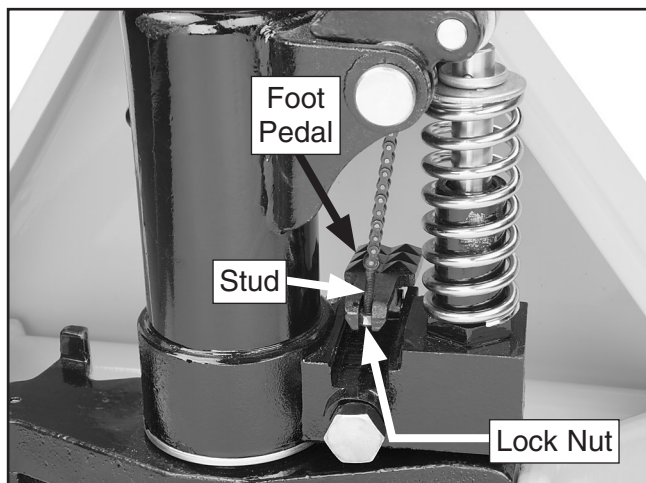

Figure 7. Stud and nut installed into foot pedal.
4. Lift the foot pedal (see **Figure 7**), then slide the stud and lock nut into the groove on the pedal.